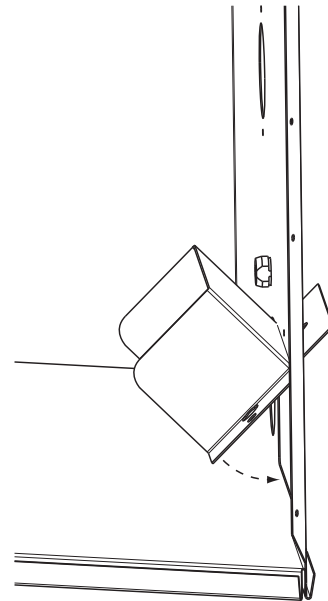

Figure 7.5 Attach the Heat Shield
- Prior to attaching the junction box to the appliance, the heat shield supplied with your appliance must be installed. Insert the top flange of the heat shield through the electrical knockout hole from the inside (Figure 7.5).